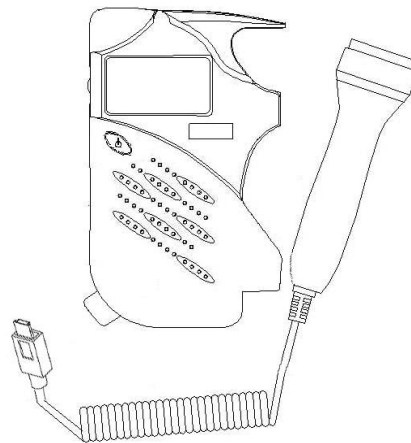

Figure 4-4
- 4) Pull out the plug of the probe from its socket (figure 4-4).